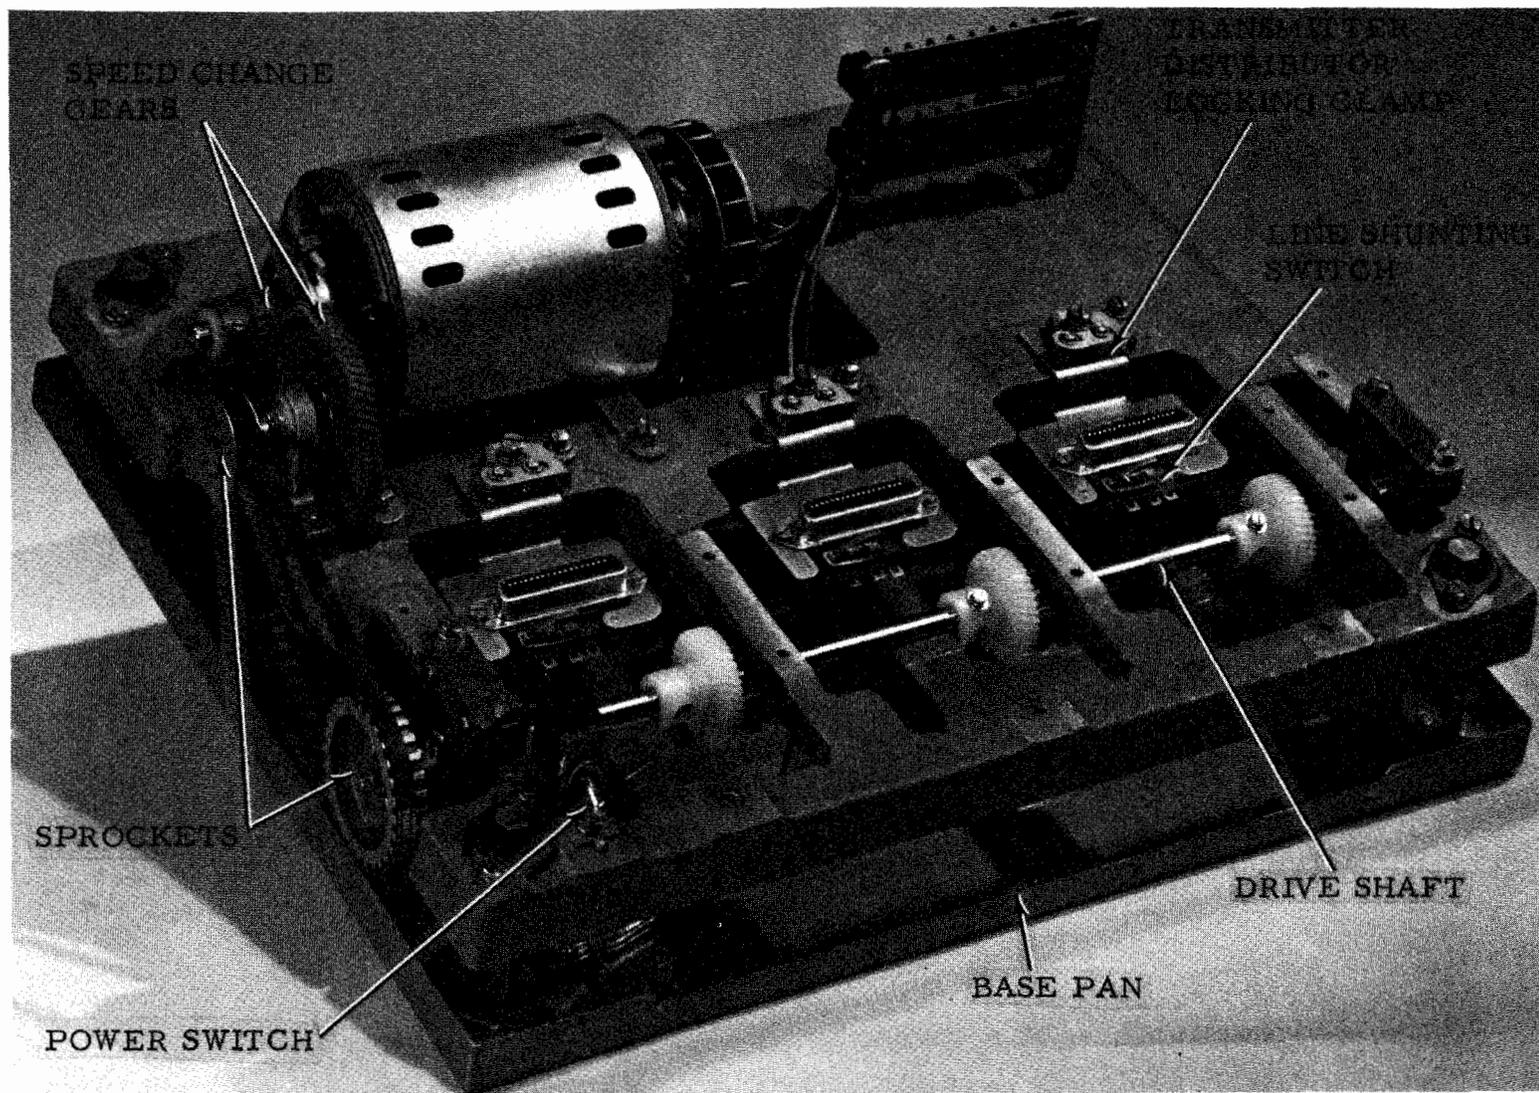
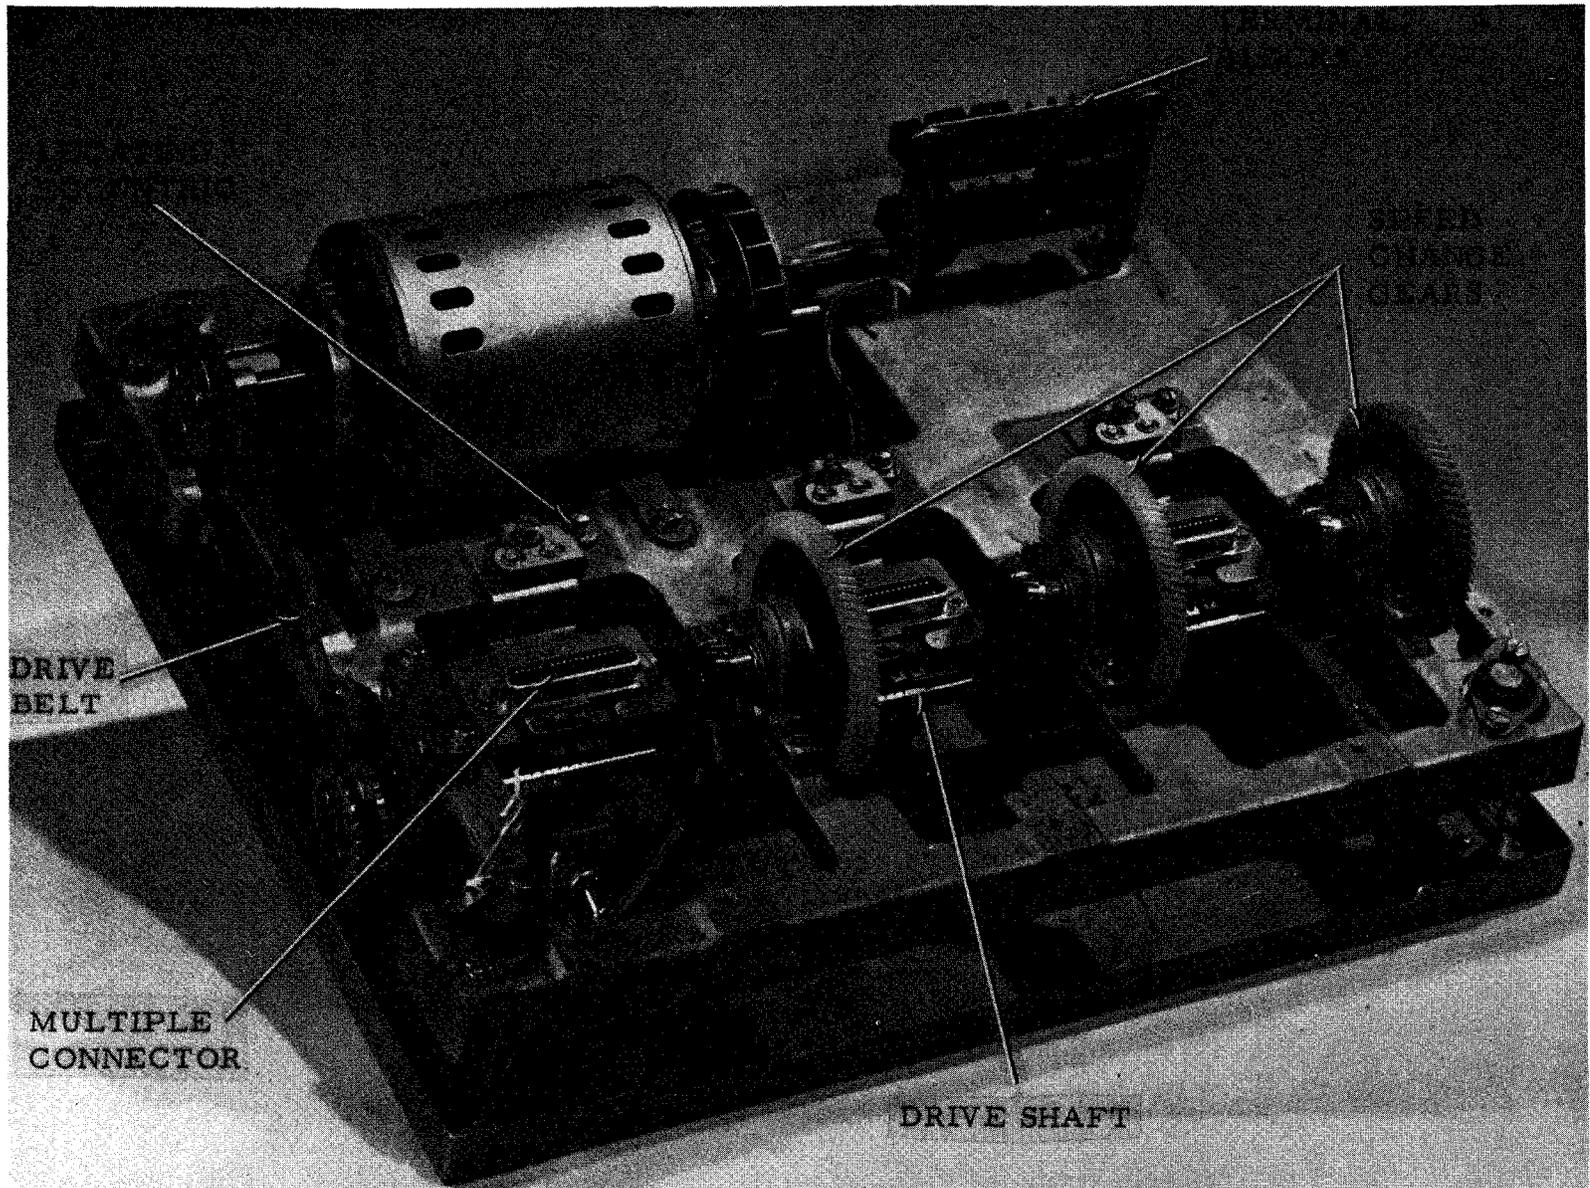
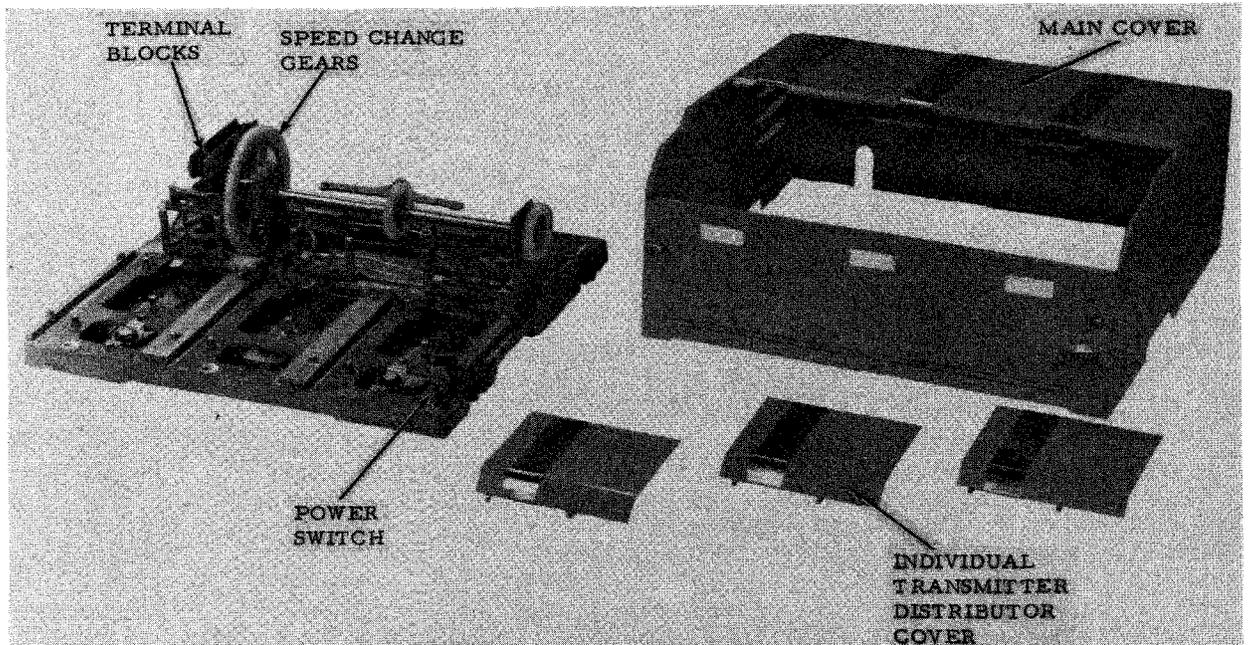
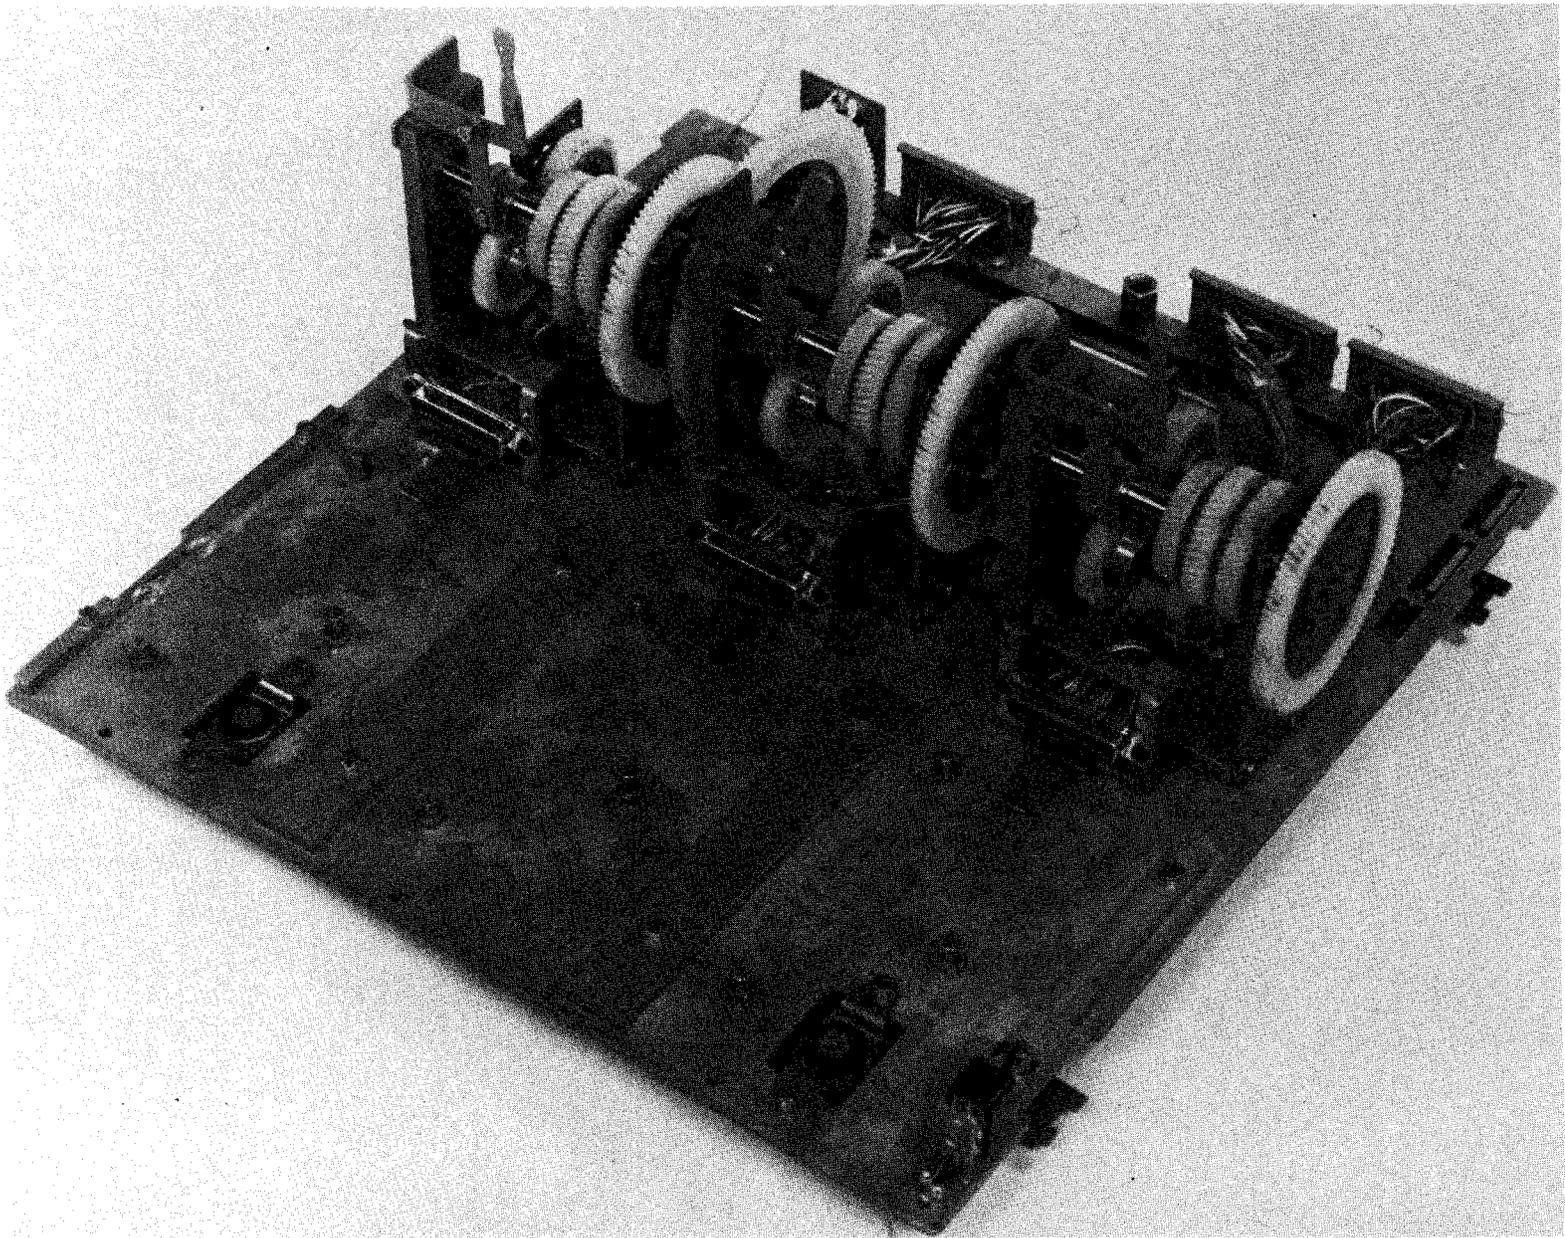

Figure 1-13. Transmitter Distributor Base - Single Contact, Multiple Mounting (Common Speed)
Figure 1-14. Transmitter Distributor Base - Single Contact, Multiple Mounting (Variable Speed)
Figure 1-15. Transmitter Distributor Base - Multicontact, Multiple Mounting (Common Speed)
Figure 1-16. Transmitter Distributor Base - Multicontact,
(4) Multiple Mounting Bases. The multiple mounting base is designed as a mounting for three TD units, a motor unit, drive shafting, and gears. There are two types of these bases, each with provisions for changing the driving speed of its associated TD units. One type is designed as a mounting for three single contact TD units (figures 1-13 and 1-14). The other type is designed as a mounting for three multicontact TD units (figures 1-15 and 1-16).
motor pinion and an intermediate gear assembly (figure 1-13). With this arrangement, the three gears on the drive shaft are the same size and drive all three TD units at the same speed. Other bases have speed change gears at each TD unit (figure 1-14). With this arrangement, each TD unit may be driven at 60, 75, or 100 words per minute by changing its intermediate gears.
(b) Base for Three Multicontact Transmitter Distributor Units. The multiple mounting bases for the multicontact TD units also serve as a mounting for three TD units, a motor unit, drive shafting with gears, and electrical connections. Some of these bases are constructed of aluminum casting (figure 1-15); others are constructed of steel plates (figure 1-16). A drive shaft traverses the base near its center portion and drives the TD units, either directly or
through a gear shift assembly. Where the shaft drives the TD unit directly, the speed changes are made between the motor pinion and the intermediate gear (figure 1-15). Where the gear shifts are used, the speed of any one of the TD units may be changed irrespective of others by shifting the gears (figure 1-16). Internal electrical connections vary with the different models. Some are made on terminal blocks at the left rear portion of the base; others are made by multiple connectors at the rear of the base. Connection with most TD units is made by multiple connectors at the rear of the unit. Some models make connection by a loose end cable with multiple connector which mates with a connector underneath the TD.
g. Covers. In general, the covers for the TDs are of simple slip-over design. The covering for single mounted TDs consists of two parts. One is a slip-over cover for the motor unit, terminal blocks, and intermediate gear assembly; and the other is a U-shaped panel which encloses three sides of the TD. The covering for the multiple mounting sets consists of four parts. One is a slip-over cover for the motor unit, gearing, and terminal blocks; and the other three are cover plates for the individual TDs (figure 1-15). The front side of the larger cover is hinged so that it may be opened for access to the front of the TDs.